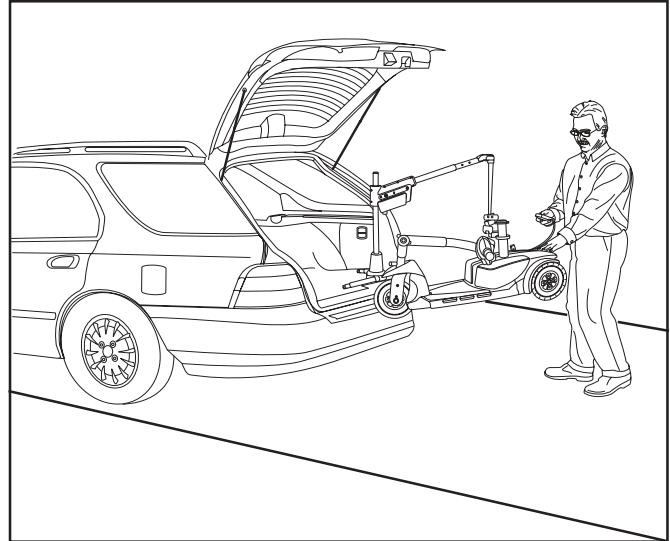

Figure 16. Lifting The Mobility product
8. Once the mobility product is raised high enough to fit into the vehicle, stop the lift. **See figure 16.**